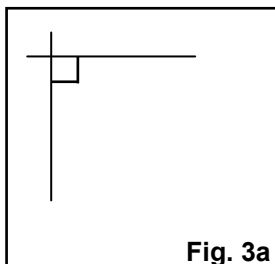
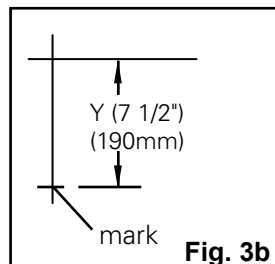
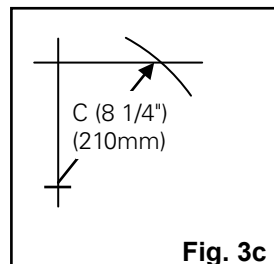
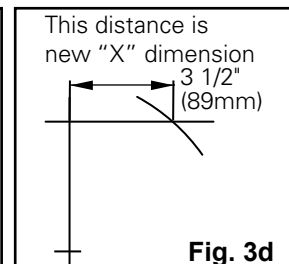

Fig. 3a
Fig. 3b
Fig. 3c
Fig. 3d
- 3. Determine final dimension.** On a flat vertical surface, using a level, draw one horizontal line and one vertical line, creating a right triangle (Fig 3a). Measure down from the intersection the determined “Y” dimension and mark (Fig 3b). With the tape measure starting at the modified “Y” mark, swing the tape across the “X” line and mark at the “C” dimension where it crosses the “X” line (Fig 3c). Measure from the intersection to the “C” intersection and this will be your new “X” dimension (Fig 3d).